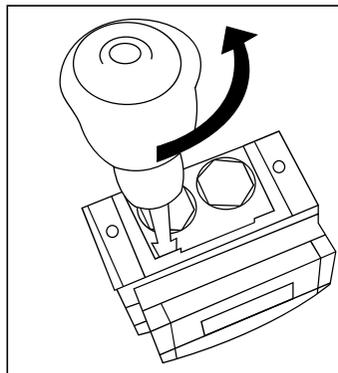

Fig. 3 Cover removal
- To remove the cover, undo and remove the four cover fixing screws. The four retaining clips also need to be released. To do this place a flat bladed screwdriver into the slot between the cover and backbox and gently twist until the clip disengages **(Fig. 3)**. Repeat this for the three remaining clips and pull the cover away from the backbox.